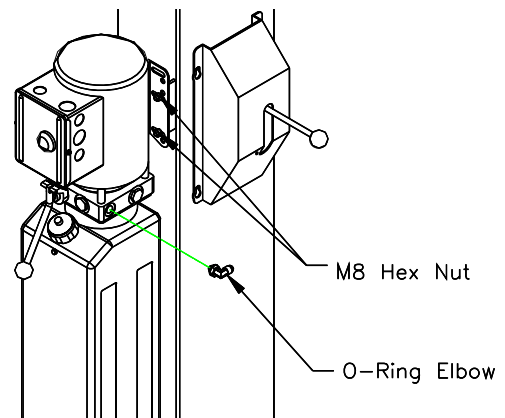

Fig 4 – Power Unit Mounting
- 18) Mount Power Unit to power column as shown in **Fig 4**. The mounting hardware, (4) M8 hex nuts, are pre-installed on power unit mounting bracket.